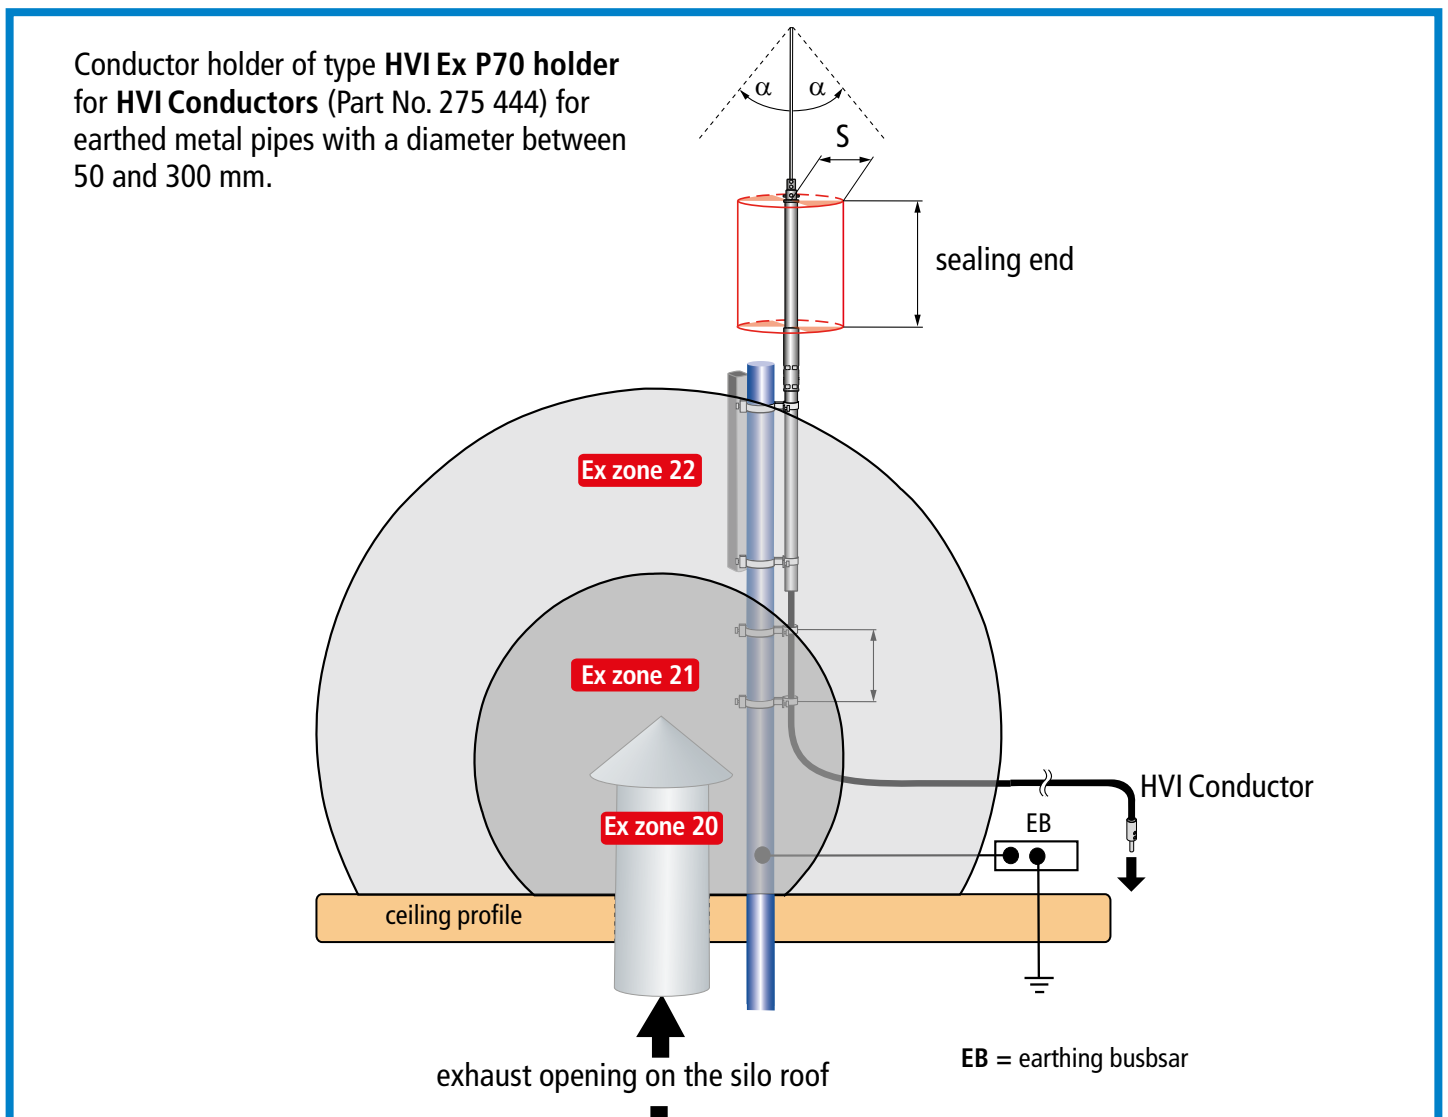
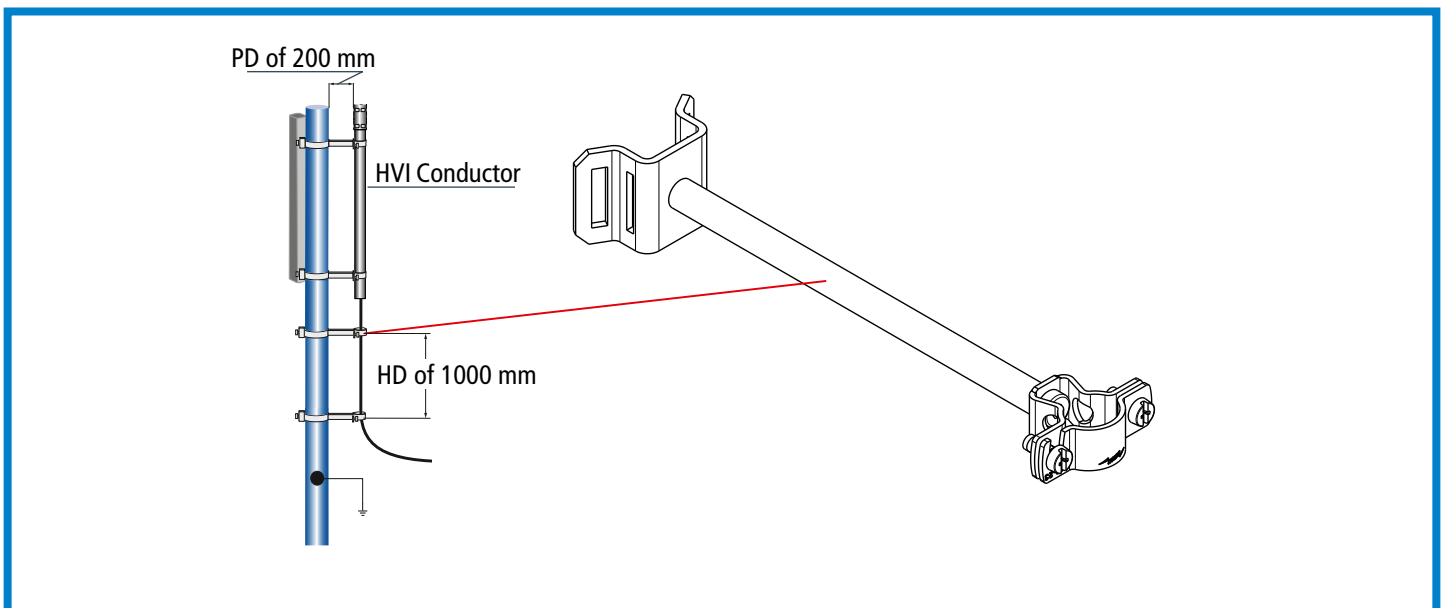
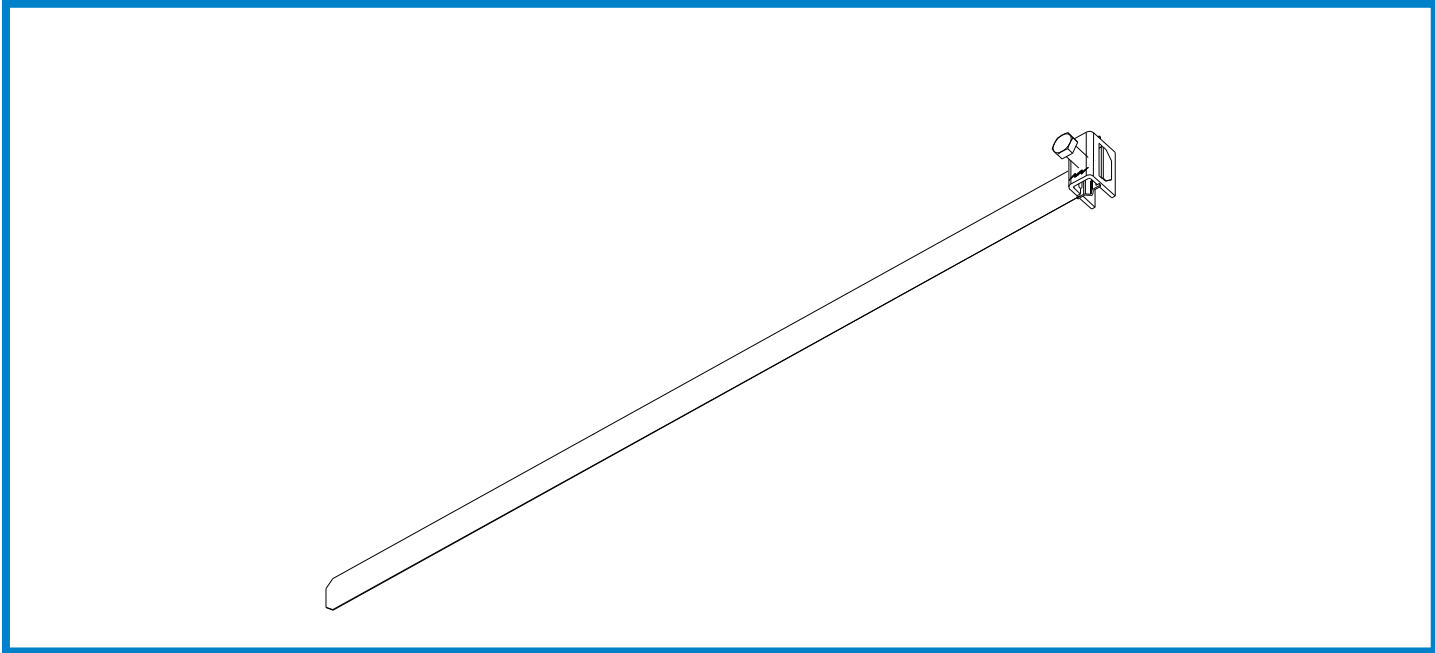

Figure 4 Installation in parallel to an earthed metal pipe: holder distance of 500 mm; pipe distance of 70 mm
Figure 6 Conductor holder of type **HVI Ex P200 holder** (Part No. 275 442)
Figure 7 Pipe clamp (Part No. 106 323)
Fig. 4 shows a typical application at a metal pipe, e.g. a mobile phone mast.
If metal conductor holders of type **HVI Ex P70 holder** with a pipe distance (PD) of 70 mm (Part No. 275 444) and a maximum installation distance ≤ 500 mm (see Fig. 4) are used, discharges can be reliably prevented. The conductor holders are fixed by means of a pipe clamp (Part No. 106 323; see Fig. 7, page 10).
If metal conductor holders of type **HVI Ex P200 holder** with a pipe distance (PD) of 200 mm (Part No. 275 442) and a maximum installation distance ≤ 1000 mm (see Fig. 6) are used, discharges can be reliably prevented. The conductor holders are fixed by means of a pipe clamp (Part No. 106 323; see Fig. 7, page 10).